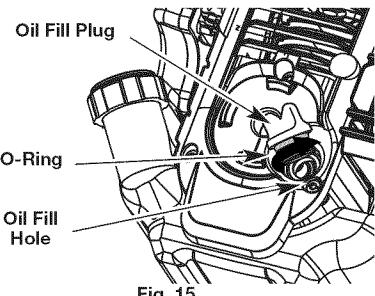

Fig. 15
**NOTE:** Make sure the O-ring is in place on the oil fill plug when checking and changing the oil (Fig. 15).